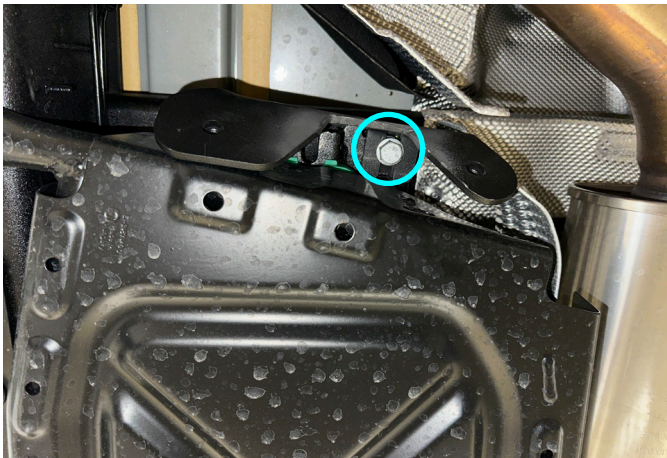

Fig. 3
3. Install the front bracket (item 2) and fix it using factory bolt as shown in fig.3.